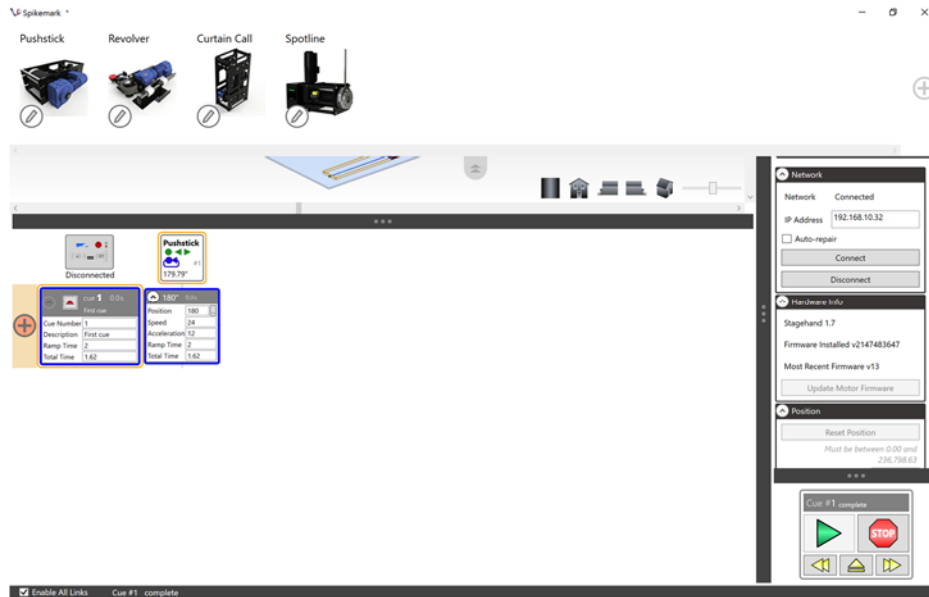

Figure 71
2. The **Machine Library** panel will slide down from the top of the main window (Figure 71).